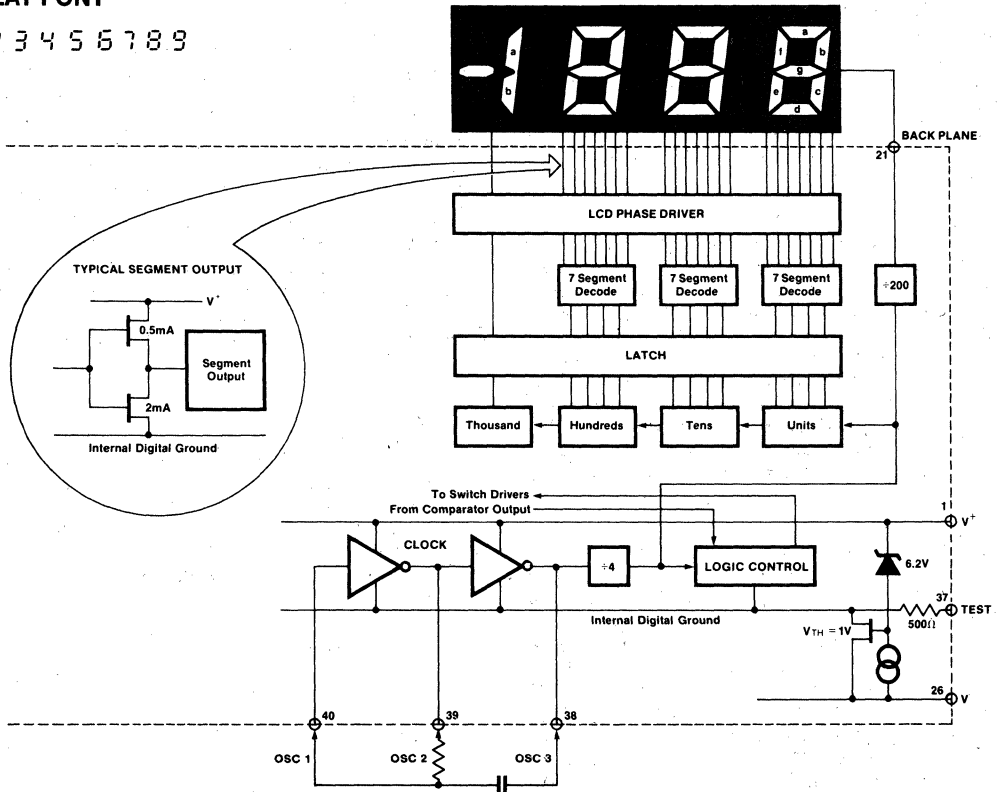

Figure 7: Digital Section 7106
Figures 7 and 8 show the digital section for the 7106 and 7107, respectively. In the 7106, an internal digital ground is generated from a 6 volt Zener diode and a large P channel source follower. This supply is made stiff to absorb the relative large capacitive currents when the back plane (BP) voltage is switched. The BP frequency is the clock frequency divided by 800. For three readings/second this is a 60 Hz square wave with a nominal amplitude of 5 volts. The segments are driven at the same frequency and amplitude and are in phase with BP when OFF, but out of phase when ON. In all cases negligible DC voltage exists across the segments.